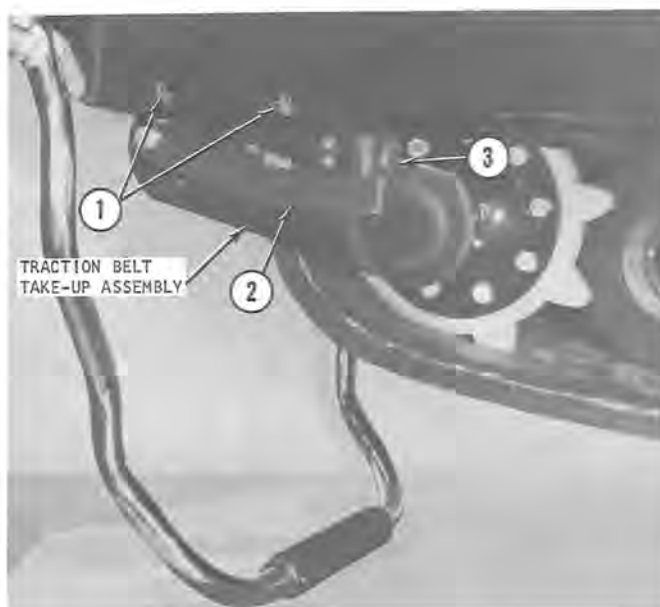

Figure 15
- If the track is not centered, loosen the two locknuts (1, figure 15) on that side where the edge of the track is closest to the inside edge of the tunnel. Tighten the adjusting screw (3) until track is centered.
- If adjustment is necessary, loosen the two locknuts (1, figure 15) on each side of the sled just sufficiently to allow movement of the belt-adjusting angle (2).
- Turn the adjusting screws (3) clockwise to tighten and counterclockwise to loosen until proper track tension is achieved. **IMPORTANT:** Adjust both screws (3) equally so as not to disturb the track alignment.